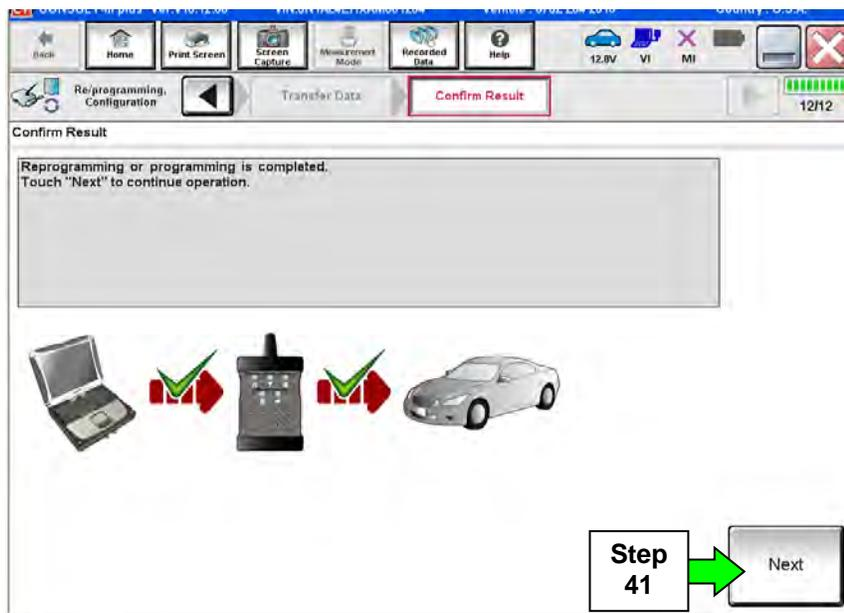

Figure 22
39. When the screen in Figure 22 displays, the reprogramming is complete.
NOTE: If the screen in Figure 22 does not display (which indicates reprogramming did not complete), refer to the information on the next page.